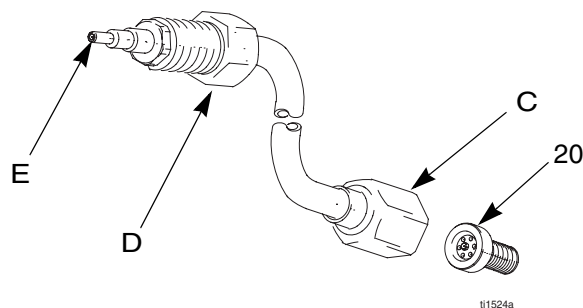

Fig. 26. Fluid Tube Replacement
2. Remove the air cap assembly, page 37. Remove the shroud (2).
3. Disconnect the bottom fluid tube nut (C). See FIG. 26..
4. Carefully unscrew the top fluid tube nut (D).